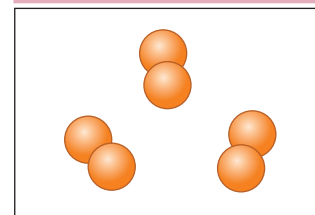

Figure 1A–4 Monoatomic (left) and diatomic (right) elements are made of only a single type of atom.
- Non-metallic elements like helium and neon are **monoatomic**, whereas other non-metallic elements, like chlorine and nitrogen, form molecules that are **diatomic** (Figure 1A–4).
Compounds are formed when two or more different types of atoms combine in fixed ratios to form a new substance (Figure 1A–5).
Figure 1A–5 A water molecule is a compound that is formed from two different elements in a fixed ratio. Two hydrogen atoms are covalently bonded to one oxygen atom.